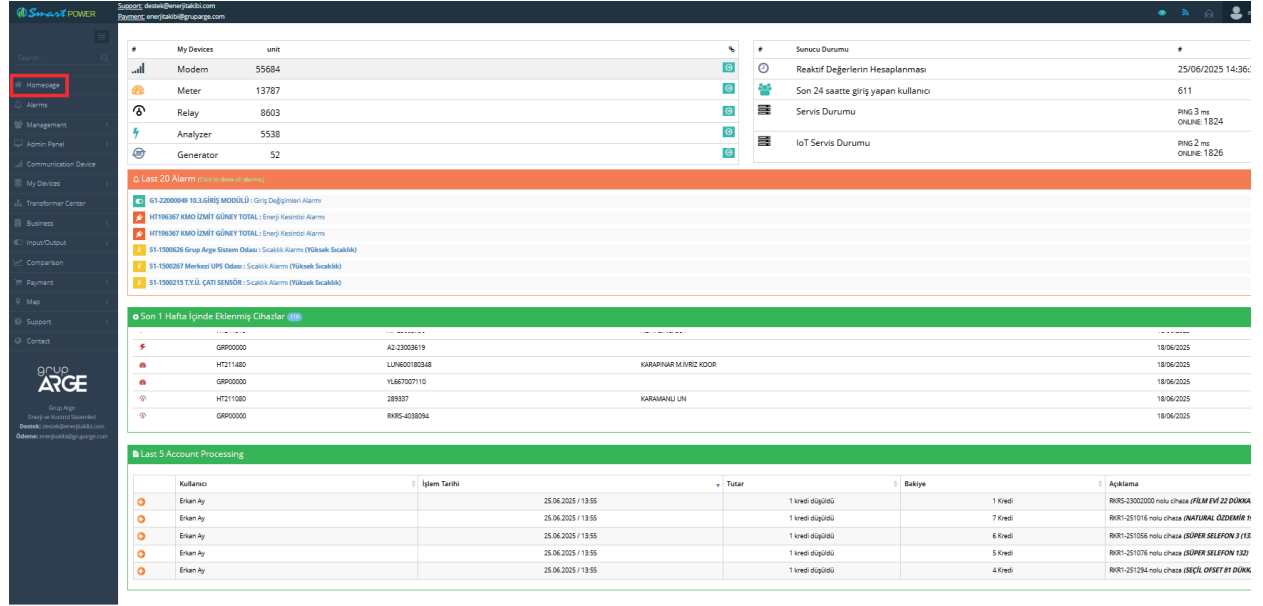

Figure 5.2
4. After logging in, the main dashboard will be displayed. (Figure 5.2)